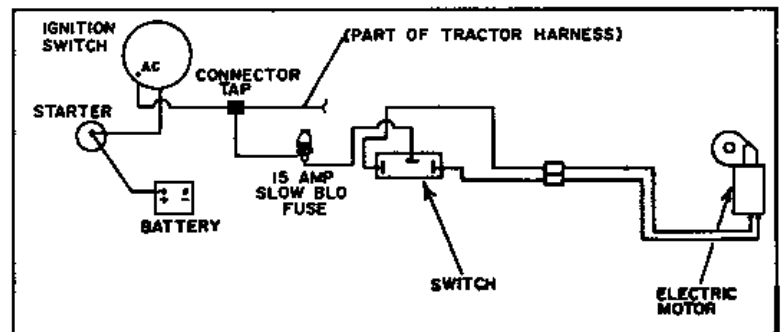

Figure 8
- b) Install the adapter (item 1) on the motor shaft and attach motor (item 2) to rotation bracket (item 3) using three 1/4" x 3/4" bolts, lockwashers and flatwashers. Tighten.
- c) Insert longest tube end of rotation worm (item 4) over adaptor and into plastic bushing in rotation bracket. Align holes and secure with a 10-24 x 1" capscrew and a nylon lock nut. Tighten securely.
- d) Install the assembly over the nozzle base and place the retaining plate (item 5) on underside of nozzle base. Secure using two 1/4" x 3/4" bolts, lockwashers and nuts. Torque to 9-11 lbs.ft.
- f) Solder one 18" wire to the side terminal of fuse holder and the other 18" wire to the bottom terminal (see figure 8).
- h) Connect one wire from fuse holder to middle terminal of control switch, the other 18" wire to the tractor ignition switch (see figure 8).